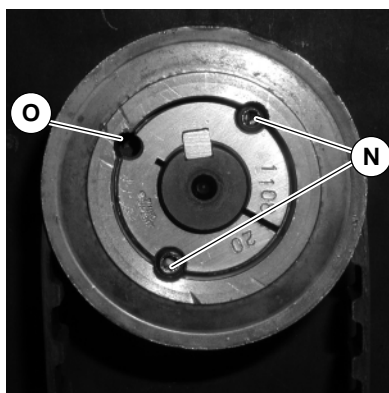

Figure 15
- b. Loosen taper set screws (N of Figure 15) on the driven pulley. Remove one set screw and insert in open hole (O). Tighten until pulley slides off drive shaft.